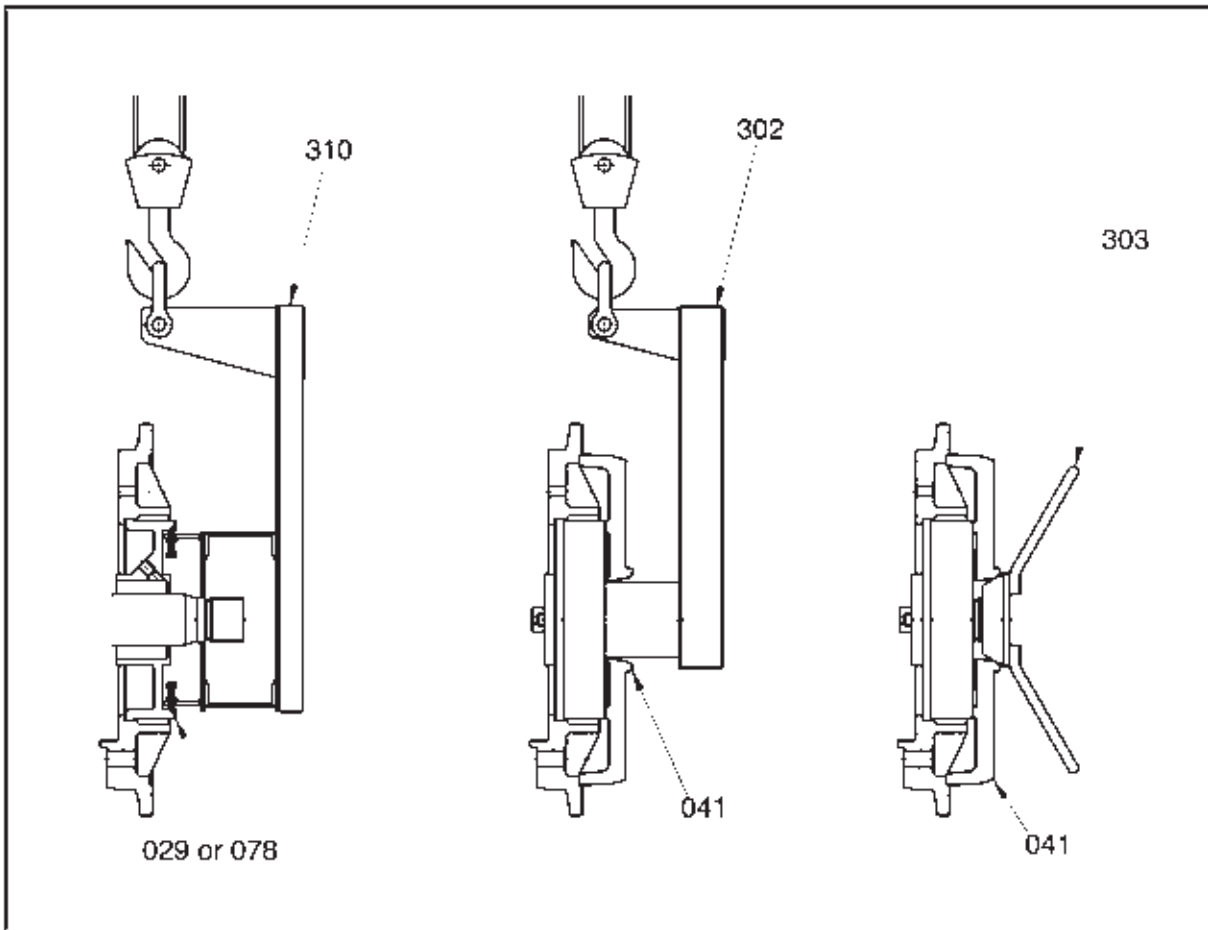
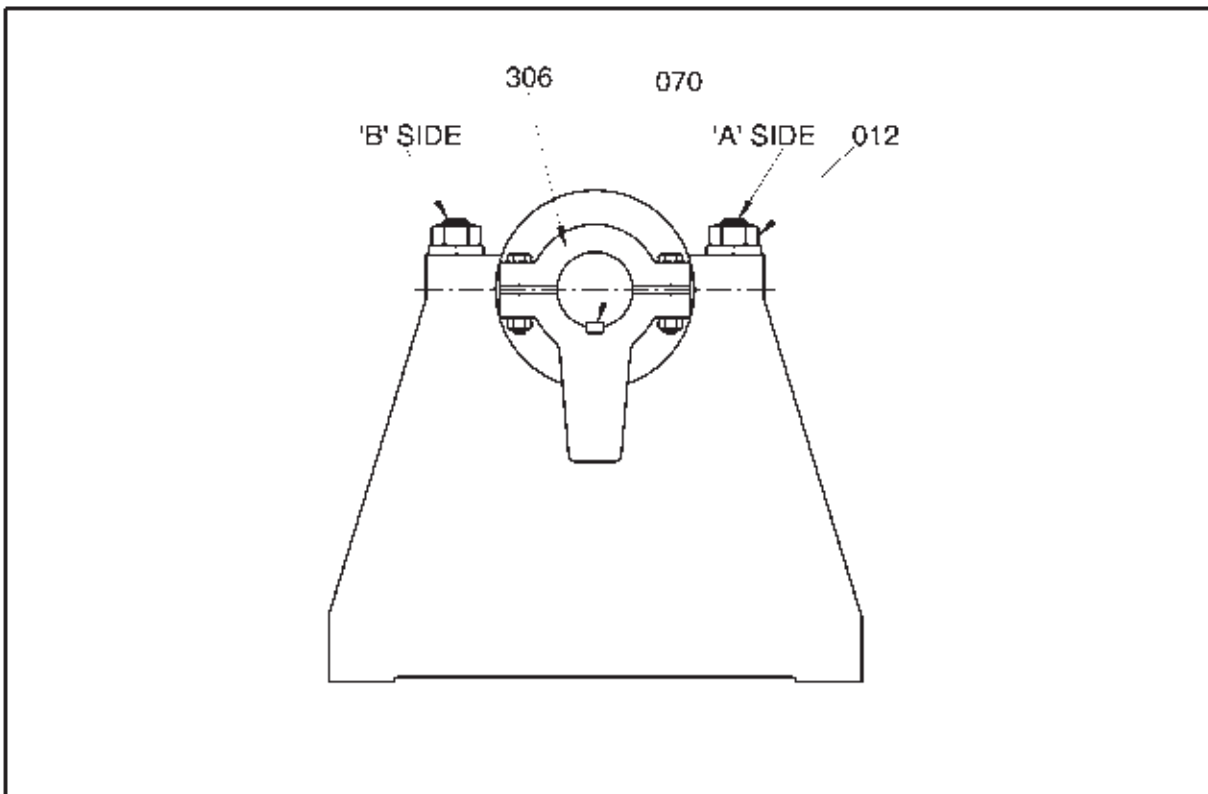

Fig.6 Pump assembly tools
Fig. 8 View of base from drive-end.
- (iii) Attach **lifting plate** (310) to **stuffing box** (078), using the 3 jacking screws provided, and ensure that the gland seal water connection in stuffing box is in line with the lifting beam (see Fig 6).
- (a) Slide **lantern restrictor** (118) or **neck ring** (067) inside stuffing box against retaining lip.
- (b) Fit first **packing ring** (111) of required length to fill the stuffing box annulus, and push against the neck ring or lantern restrictor.
- (c) Slide **lantern ring** (063) and press to flatten first packing ring. When a lantern restrictor is used, the lantern ring is omitted.
- (e) Assemble **gland** (044) halves over shaft sleeve with gland spigot towards stuffing box, fit **gland clamp bolts** (126), and fully tighten. Fit gland into stuffing box, and push down to compress packing rings. Fit gland bolts (045) and tighten sufficiently to remove slack (final adjustment will be made when test running pump).
- (iv) Assemble **gland** (044) halves, fit **gland clamp bolts** (126), and fully tighten. Place gland in expeller ring, around shaft sleeve, and push down to compress packing rings. Fit **gland bolts** (045) and tighten just sufficiently to hold shaft sleeve (final adjustment will be made when test running pump).
- (vi) Determine which components fit between **labyrinth** (062) and **shaft sleeve** (075), from the pump components diagram, or from tables 1 and 2 for the particular pump being assembled. Fit these components to the shaft. Refer to part 4A of the instruction manual for details of fitting the **impeller release collar** (239), if required.
- (vii) Apply anti-seize compound to expeller ring location recess in adaptor plate to assist future removal of expeller ring. Fit the assembled expeller ring to the adaptor plate, and tap into position with a mallet. Locate expeller ring with the grease inlet connection at the top. **Lifting plate** (310) may be used in fitting the assembled expeller ring to the adaptor plate on the larger pump sizes, as shown in fig 6. If the shaft sleeve remains forward of its correct position, it should be pushed back until it is firmly in contact with other items assembled on the shaft. Ensure that any shaft O-Rings are correctly positioned in grooves.
- (viii) Assemble remaining O-Rings and shaft spacers, which fit between **shaft sleeve** (075) and **expeller** (028), as indicated in tables 1 and 2.
- (ix) Fit **expeller** (028) to shaft, and compress assembled parts.
- (i) Determine which components fit between **labyrinth** (062) and **expeller** (028), from the pump components diagram, or from table 1, for the particular pump being assembled. Fit these components to the shaft. Refer to part 4A of the instruction manual for details of fitting the **impeller release collar** (239), if required.
- (ii) Assemble **lantern ring** (063) followed by **neck ring** (067) on shaft sleeve, and move along sleeve to contact labyrinth (or impeller release collar, if applicable)
- (iii) Fit **expeller ring** (029) to **lifting plate** (310), using the three jacking screws, as shown in Fig 6. Ensure that grease inlet on expeller ring is in line with the lifting beam.
- (1) Slide **neck ring** (067) along shaft sleeve into expeller ring gland recess, to rest on retaining lip.
- (2) Fit first **packing ring** (111) of required length to fill the packing annulus, and push against neck ring.
- (3) Slide **lantern ring** (063) on shaft sleeve, and press down to flatten first packing ring.
- (4) Fit remaining packing rings (stagger joints) to almost completely fill the packing chamber, flattening each ring separately.
- (5) Assemble **gland** (044) halves over shaft sleeve, with gland spigot towards expeller ring, fit **gland clamp bolts** (126), and fully tighten. Engage gland in expeller ring seal annulus, and push down to compress packing rings. Fit **gland bolts** (045) and tighten just sufficiently to hold shaft sleeve (final adjustment will be made when test running pump).
- (6) Assemble gland lubricating parts, as follows, only when the pump assembly is otherwise complete:
Refer figs 6, 7 and 8
- (i) Fit 'C'-section **seal ring** (122) to periphery of **stuffing box** (078) or **expeller ring** (029), preferably using contact cement adhesive. Apply adhesive to compression face of seal ring in about 4 to 6 points only to avoid undue restraint of seal during compression.
- (i) (ii) Fit **back liner** (041), as follows:
- (a) Screw **back liner studs** (144) to tapped holes in back liner and fully tighten.
- (b) Place back liner in position, concentric with **shaft** (073), engaging back liner studs with holes in **adaptor plate** (032). Fit washers and nuts to studs, and leave loose at this stage.
- (c) Fit **shaft key** (070) in shaft keyway, and bolt **shaft wrench** (306) to shaft, over key. Ensure that **clamp bolts** (012) on side 'B' of base (refer fig 8) are sufficiently tight to hold bearing assembly horizontal, but not lock it. Restrain shaft with wrench, and fit **locating nut** (303) on shaft thread, as shown in fig 6. The conical face will locate the back liner in its correct radial position, and engage the peripheral spigot on the back liner with the corresponding recess in the adaptor plate. Fully tighten all back liner studs, and remove locating nut.
- (d) Place **bowl seal** (124) over periphery of back liner, and move backwards until it is in contact with the adaptor plate.
Refer figs 6, 8 and 9
- (a) Screw **back liner studs** (026) to tapped holes in back liner and fully tighten.
- (b) Suspend **lifting tube** (302) from hoist (refer Fig 6). Stand back liner on edge, and engage lifting tube in bore of liner. Lift tube, with liner attached, and slide tube over shaft thread. Align studs with holes in adaptor plate, and move back liner fully rearwards. Ensure that the seal rings have not been displaced. Fit washers and nuts to back liner studs, and leave loose at this stage. Remove lifting tube.
- (c) Fit **shaft key** (070) in shaft keyway, and bolt **shaft wrench** (306) to shaft, over key. Ensure that **clamp bolts** (012) on side 'B' of base (refer Fig 8) are sufficiently tight to hold bearing assembly horizontal, but not lock it. Restrain shaft with wrench, and fit **locating nut** (303) on shaft thread, as shown in fig 6. The conical face will locate the back liner in its correct radial position, and engage the peripheral spigot on the back liner in the corresponding recess in the adaptor plate on some pump sizes (refer note below). Fully tighten all back liner studs, and remove locating nut.